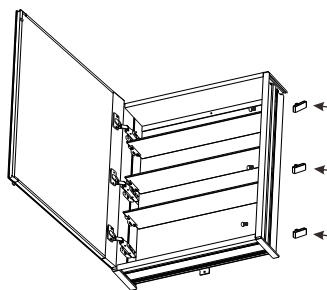

Fig.4
- 2.2 Lock the side fixing block to the cabinet with screws(Fig.4).